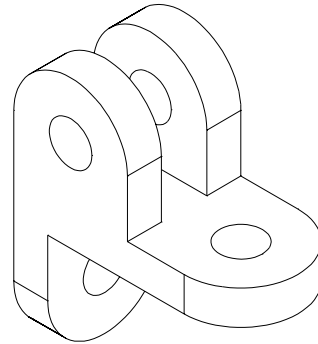

Figure 27-24 The model after union
11. Choose **Home > Solid Editing > Union** from the **Ribbon** and then unite all objects, see Figure 27-24.